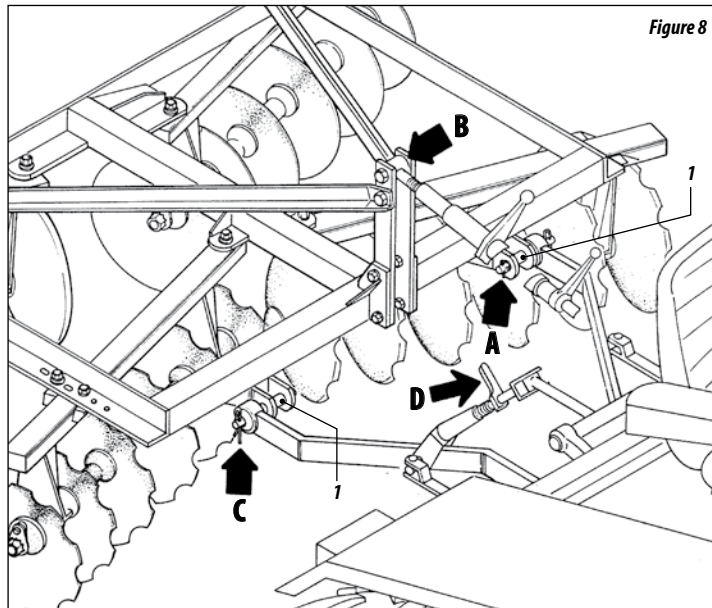

Figure 8
- 03 - Engage the tractor's lower left arm on bracket "A" of the implement with the hitch pin, item 1 Figure 8.
- 05 - Finally and with the aid of a height adjustment lever "D", engage the tractor's lower right arm on bracket "C" of the implement, as Figure 8.